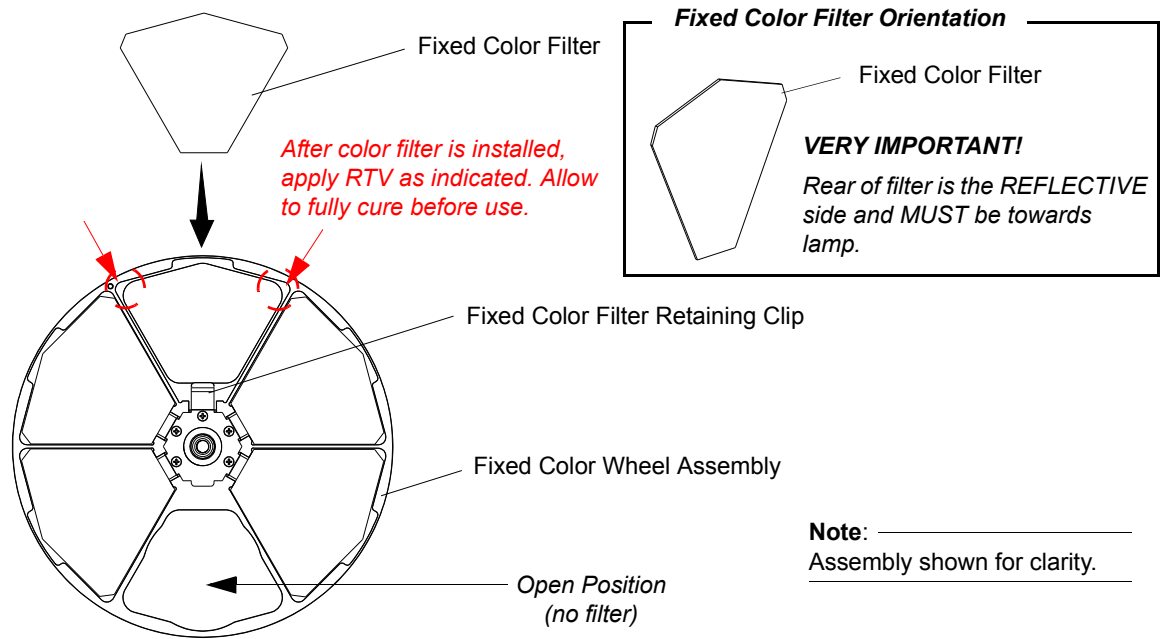

Figure 2-6: Installing Fixed Color Filters
Note: *Note RTV at the corners of the color filter. It will need to be removed and replaced. Be careful not to damage color filter when removing RTV. Refer to Figure 2-6 on page 18 for additional information.
Step 6. Install replacement filter into slot. Note orientation of fixed color filter as indicated in Figure 2-6. Make sure filter is inserted and secured by fixed color wheel retaining clip as shown in Figure 2-6.